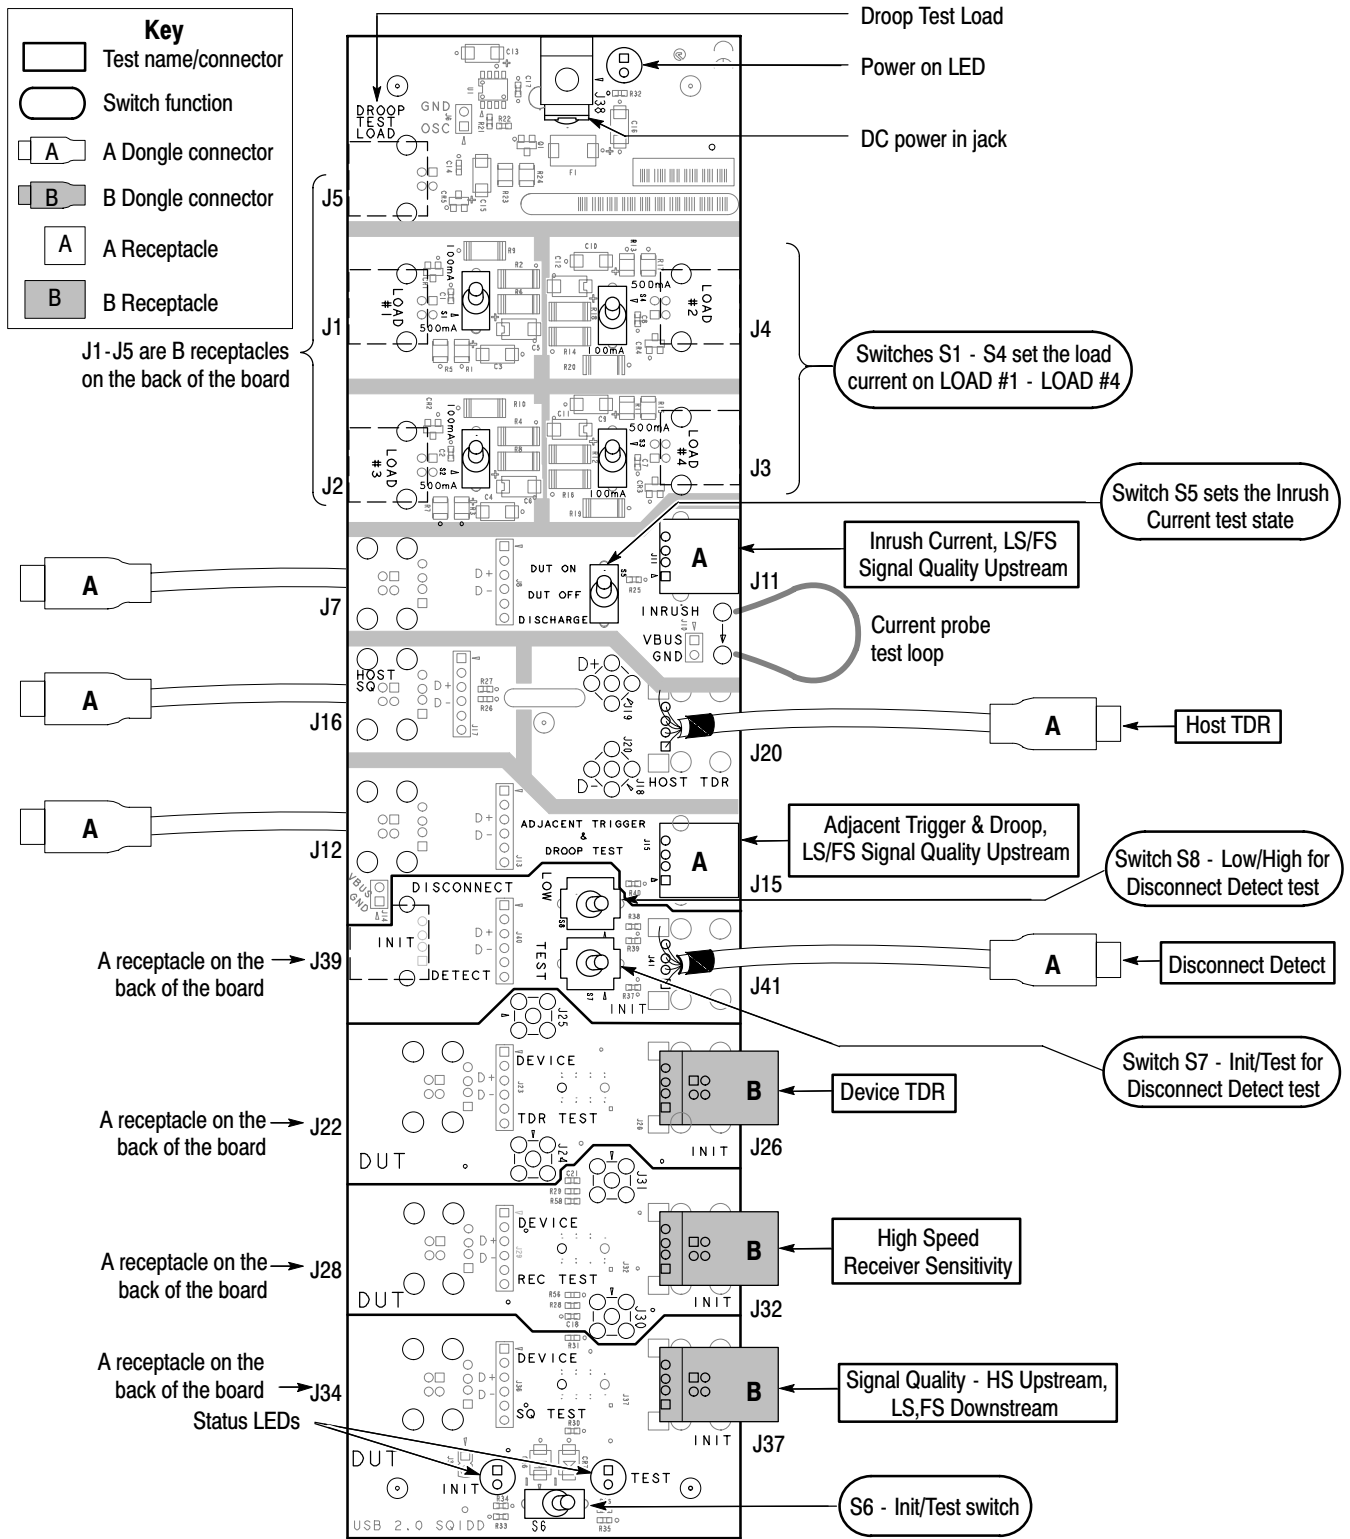

Figure 1: Fixture connections and switch functions
To use the test fixture, refer to Figure 1 on page 5, and do the following:
Use Figure 1 on page 5 and Table 1 on page 6 to prepare the fixture for specific tests.
**Signal Connections** Use Table 1 and Figure 1 on page 5 to prepare the fixture for specific tests.
Table 2 lists the details of where the SMA connectors are used. See Figure 1 on page 5 for connector locations.
Use Table 3 and Figure 1 on page 5 to configure loads for specific tests.